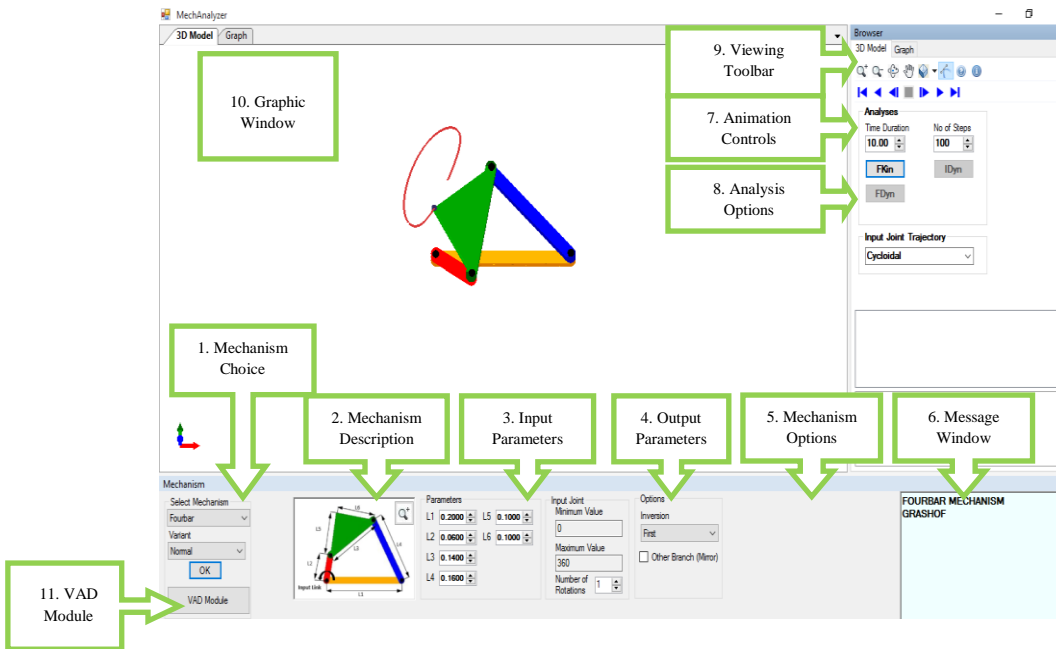

Figure 1: User Interface of MechAnalyzer V4
The version 4 of Mechanalyzer has been presented to the user in such a way that the user can easily get started with it. The user interface of the software as shown in Figure 1, can be divided into the following sections:
- The desired mechanism can be selected from the **Select Mechanism** (refer Figure 1) dropdown menu. The corresponding variant if it applies to the mechanism needs to be selected from the **Variant** (refer Figure 1) dropdown menu.